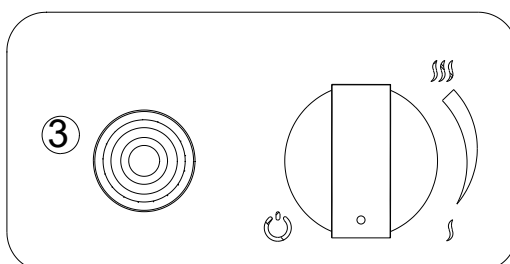

Fig 12 – Pressing the on button
- To achieve a higher flame turn the knob counter-clockwise to “Hi” position. To achieve a lower flame turn the knob clockwise to “Lo” position (*Fig 12*).